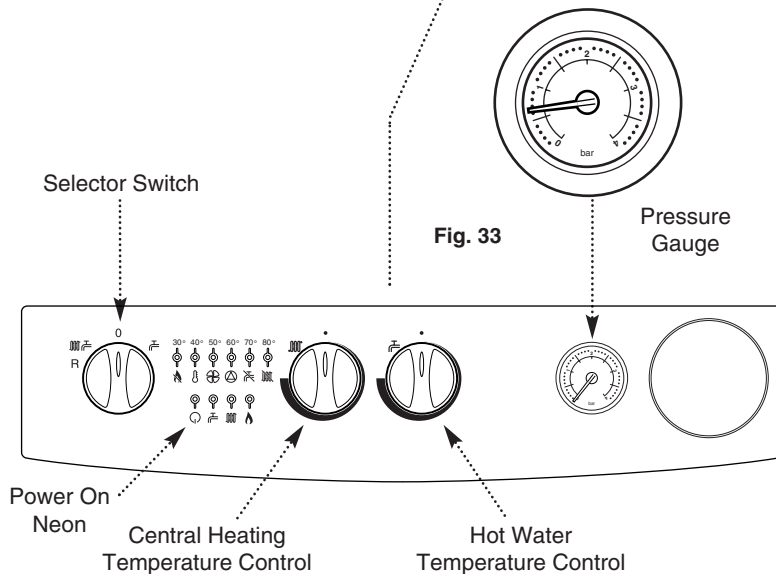

Fig. 34
10. If at any time during commissioning it is required to terminate a particular cycle, e.g. the pump overrun period, turn the selector to the OFF position and then back to either (OFF) or (ON) (Fig. 34).